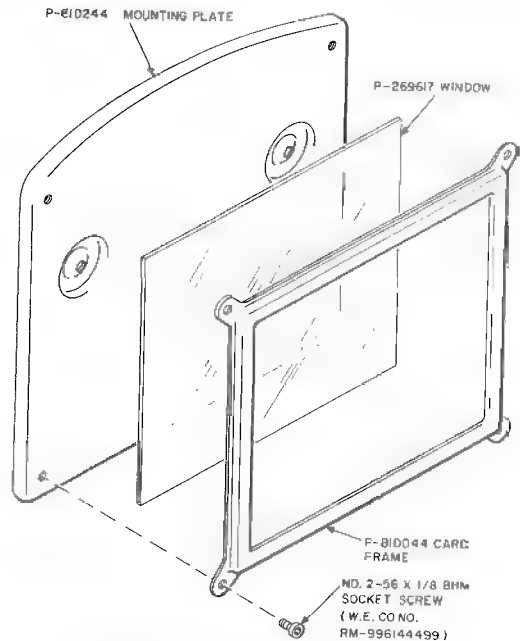

Fig. 32—50K-44 Apparatus Blank
- (1) Remove upper housing
- (2) Remove three No. 4-36 by 9/32 RHM screws.
- (3) Install new apparatus blank using reverse procedure.
- 6.48 Replace damaged or missing screws and plastic windows per Fig. 32.